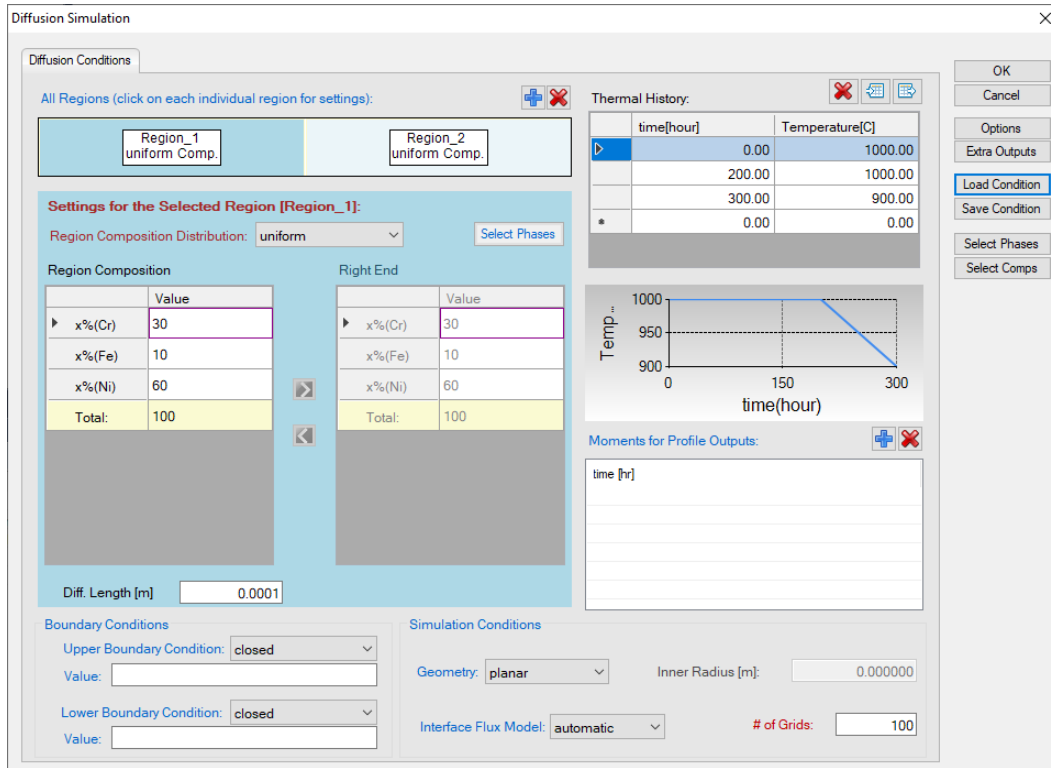

Figure 4.4.1: Setting the simulation condition
- Click on "PanDiffusion->Diffusion Simulation" and set up the calculation condition as shown in Figure 4.4.1. First select Region Composition Distribution as Uniform. Click on Region_1 and set the composition of the left region of the diffusion couple as 30Cr-10Fe-60Ni (at%), then click on Region_2 and set the composition of the right region of the diffusion couple as 55Cr-40Fe-5Ni (at%).
- In the setting shown in Figure 4.4.1, composition profiles at only the initial and final stages will be outputted. Click OK to perform calculations.